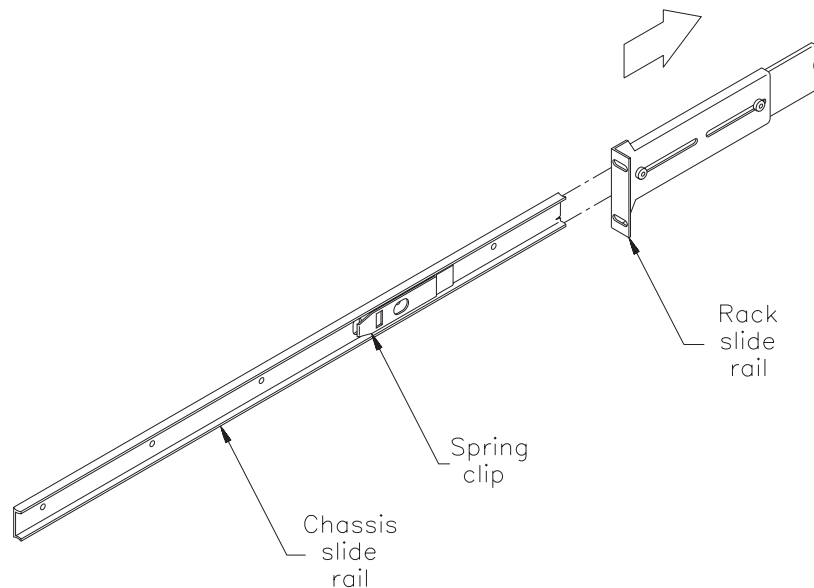

Figure 12 Separating the rack slide rail from the chassis slide rail
2. Press the spring clip to release the latch and remove the chassis slide rail from the rack slide rail, as shown in Figure 12.